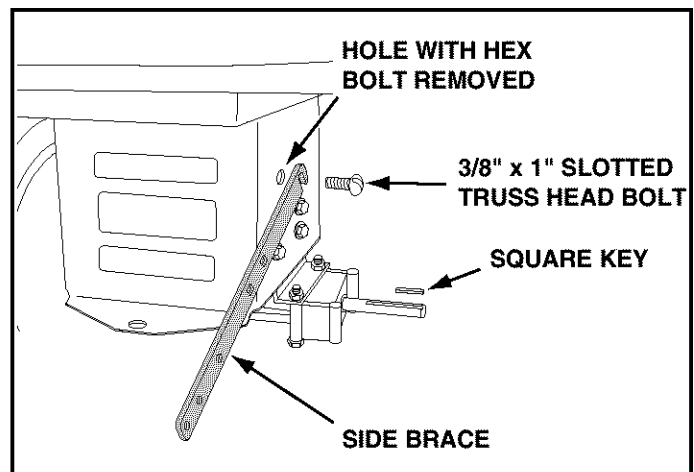

FIGURE 27
- Remove the hex bolt from the top hole in the side of the tractor frame as shown in figure 27.
- Assemble the notched end of each side brace to the top hole in the each side of the tractor frame, using the provided 3/8-16 x 1" slotted truss head bolts. See figure 27.